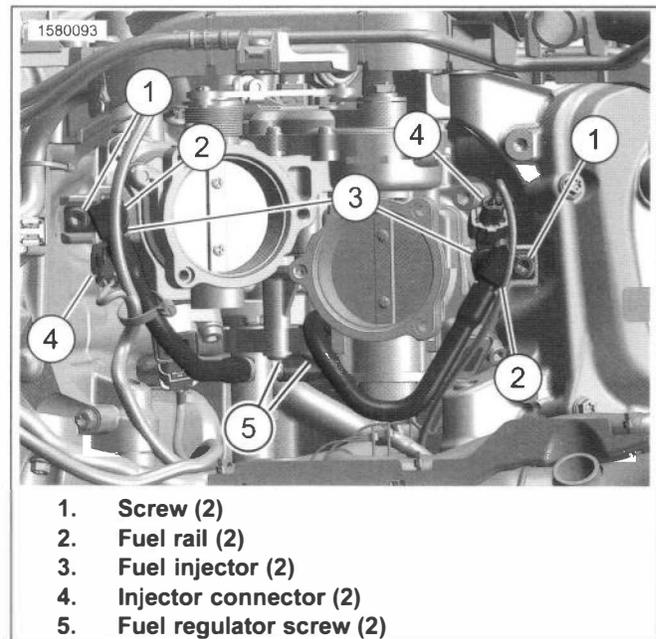

Figure 6-28. Fuel Rail and Injector Connectors
1. See Figure 6-28. Disconnect fuel injector connectors (4).
- a. Remove screws (1).
- b. Remove fuel regulator screws (5).
- a. See Figure 6-28. Install fuel injectors (3).
- b. Install fuel rail (2).
- c. Install screws (1). Tighten.
3. See Figure 6-28. Connect fuel injector connectors (4).